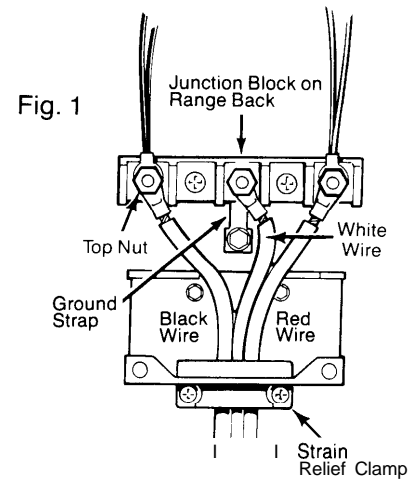

Fig. 1
2. If the device side of the range is adjacent to a cabinet, place the device against back wall and cabinet as shown in figure 1.
If there is no adjacent cabinet, determine where the location of the range side (painted outside panel) will be. Place the device with its outside edge at this location and against back wall. See figure 1.
Three Wire Cord Connection (Fig. 1)
- See Figure 1 for all rough-in and spacing dimensions. These dimensions must be met for safe use of your range.